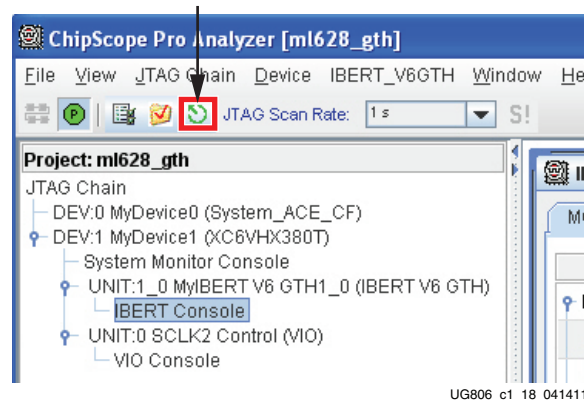
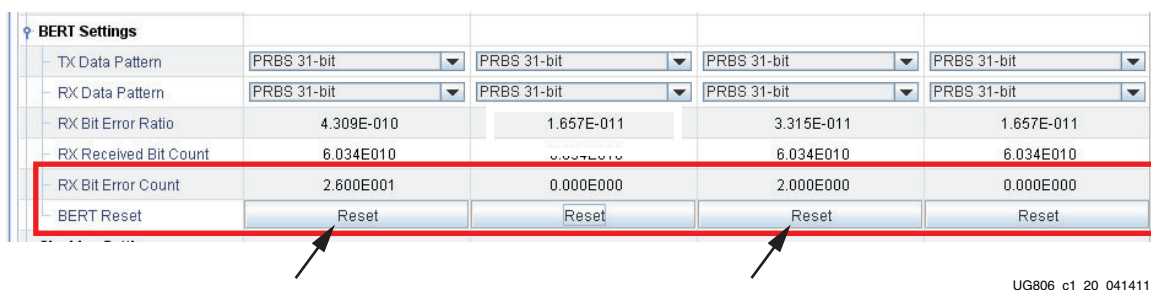

Figure 1-18: Reset All Button
Figure 1-20: Resetting the RX Bit Error Count
10. At the top of the ChipScope Pro analyzer window, click the **Reset All** button (Figure 1-18).
If after the **Reset All** button (Figure 1-18) has been pressed the **RX Bit Error Count** for one or more Quads displays a non-zero value, click the respective BERT **Reset** button (Figure 1-20) to zero the count.